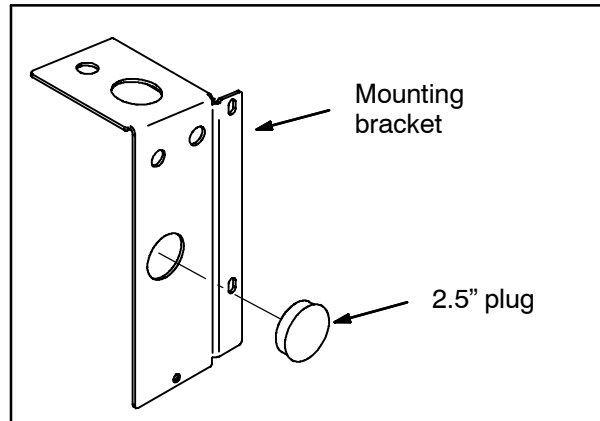

FIG. 3
14. **Machines not equipped with optional spray hose:** Remove the 2.5" plug from the mounting bracket located in the corner of the operators compartment. Discard the plug. Refer to Fig. 3.
15. **Machines with Spray Hose Option Only:** Disconnect spray hose fittings / hoses from the machine. Set removed items aside since they will need to be reinstalled after the mounting bracket is reinstalled onto the machine. Refer to Fig. 3.
16. Remove the mounting bracket from the machine. Set the mounting bracket and hardware aside. Refer to Fig. 3.